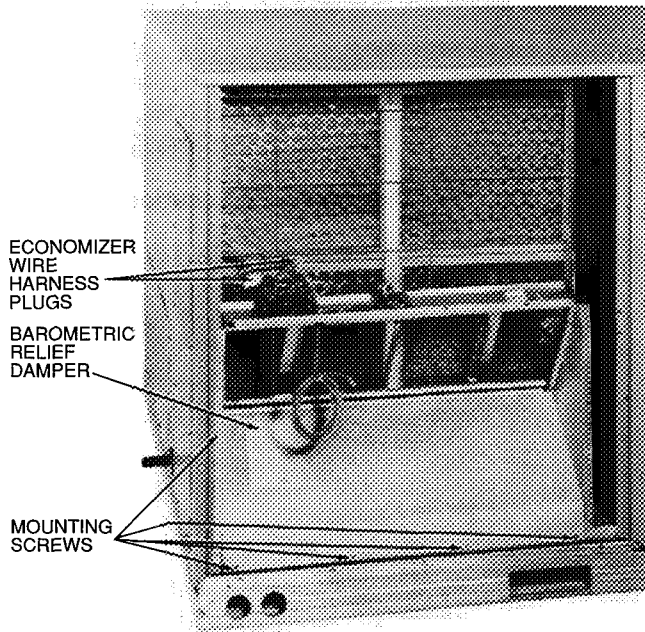

Fig. 19 – Economizer Installed in Unit
5. Remove screws securing barometric relief damper, if desired. See Fig. 19.
7. Insert economizer plug from the wiring harness (supplied with the unit) into the wiring harness plug (supplied with the economizer). See Fig. 19.